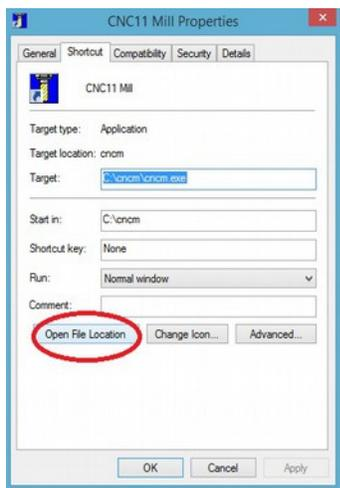

Figure 4.3.2
3. A window will pop up, go to the “shortcut” tab and click “**open file location**” as shown in Figure 4.3.2.